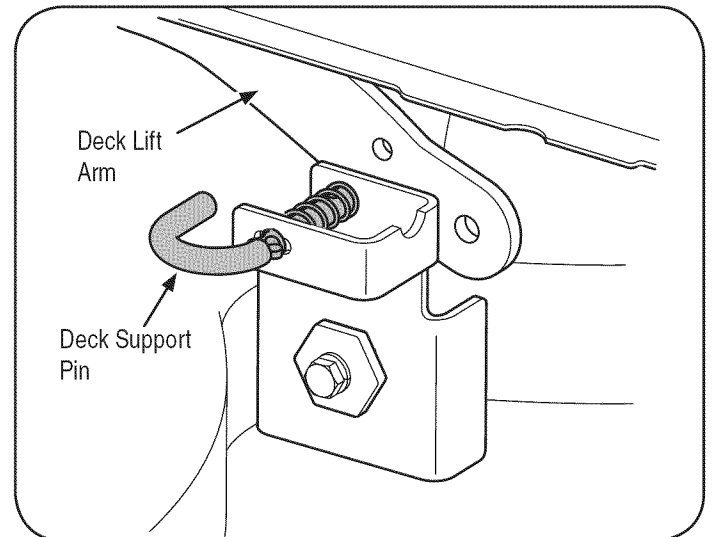

Figure 12
6. Pull the deck support pin outward to release the deck from the deck lift arm. See Figure 12.
- b. Reconnect the deck lift arms. See Figure 12.